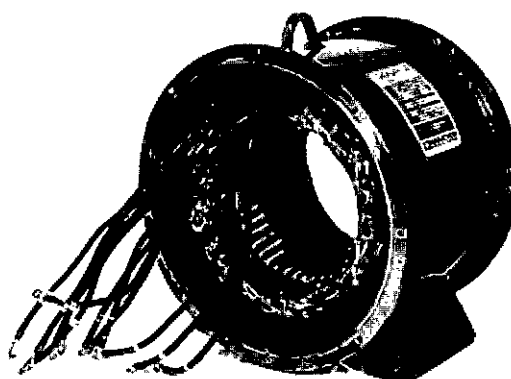

FIGURE 6-33
1. Clean dust and dirt from the stator frame and winding. (Figure 6-33.) (See section 5.)